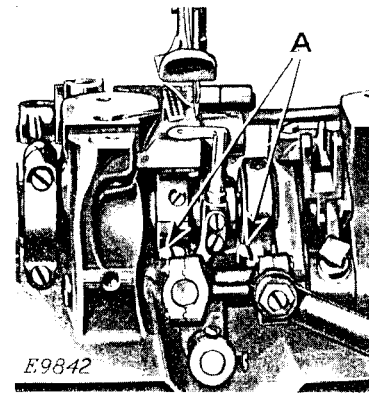

FIG. 11
Each looper is made with a flat to ensure the correct angle of the looper in relation to the needle when the looper is fastened in position in the looper carrier by the two set screws. If, for any reason, the looper may be too near or too far away from the needle, loosen the two screws (A, Fig. 11) in the looper carrier holder and move the looper as required, then tighten the two screws (A) in the looper carrier holder.